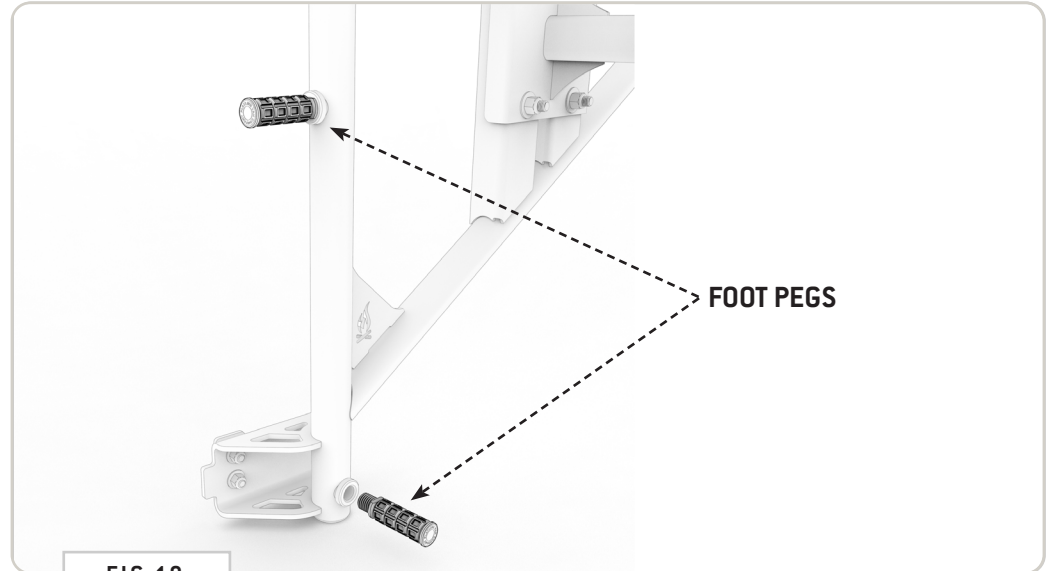
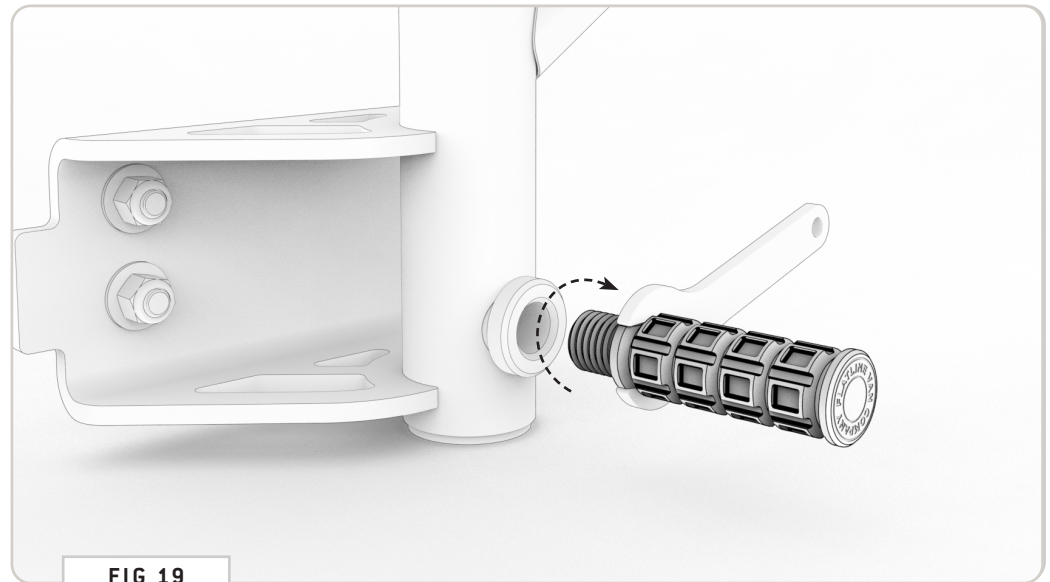

FIG 18
FIG 19
7.1 Foot Pegs: Thread on **Foot Pegs** to locations shown in **FIG 18** and use the provided **Foot Peg Wrench** to tighten foot pegs to carrier (**FIG 19**).